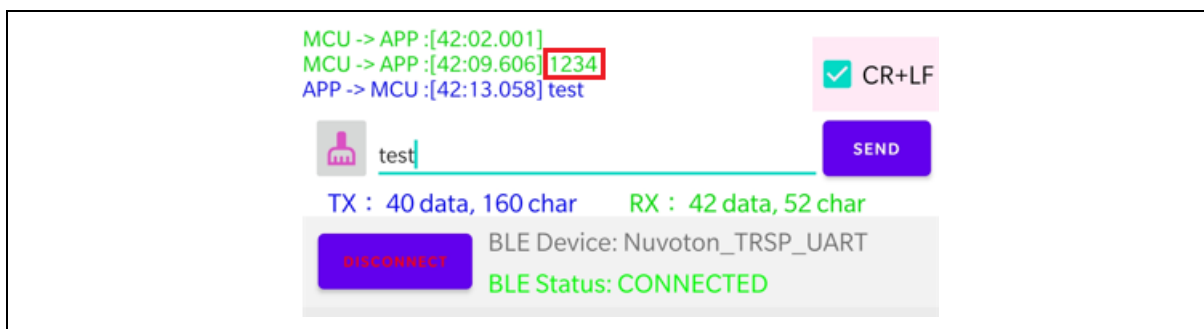

Figure 4-3 TRSP\_UART PC to App Screen
3. For sending data from PC to mobile App, you can type string “1234” + ENTER in debug console. You will see the string in App, as shown in Figure 4-3.